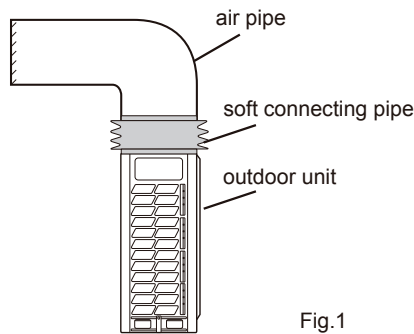

Fig.1
- Please install a soft connection between the machine and the air duct to prevent vibration noise refer to fig.1.